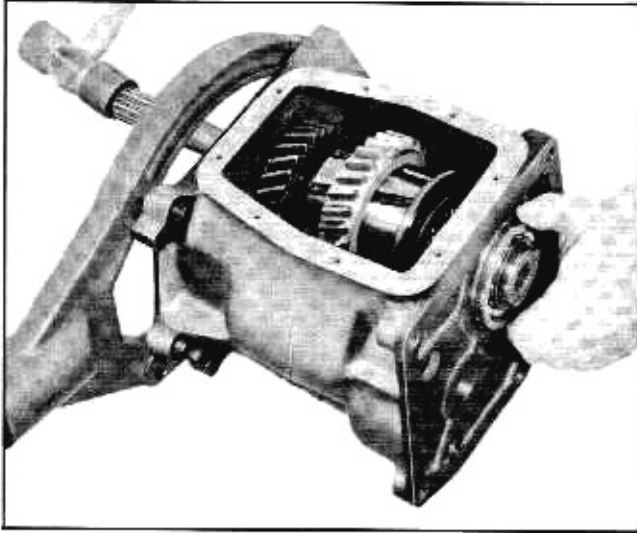

Fig. 7-24 Driving out Clutch Gear and Bearing
5. Drive out clutch gear bearing and clutch gear by driving on mainshaft (Fig. 7-24). Remove clutch gear and bearing.